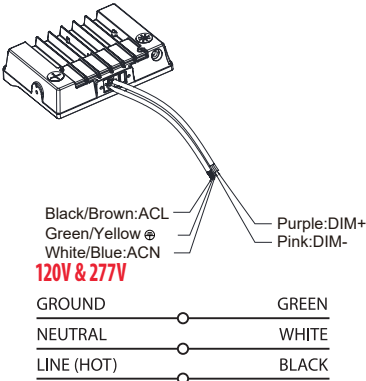

Figure 1
1. Assure power is off during wiring connections, follow wiring diagram Figure 1 and Figure 2.